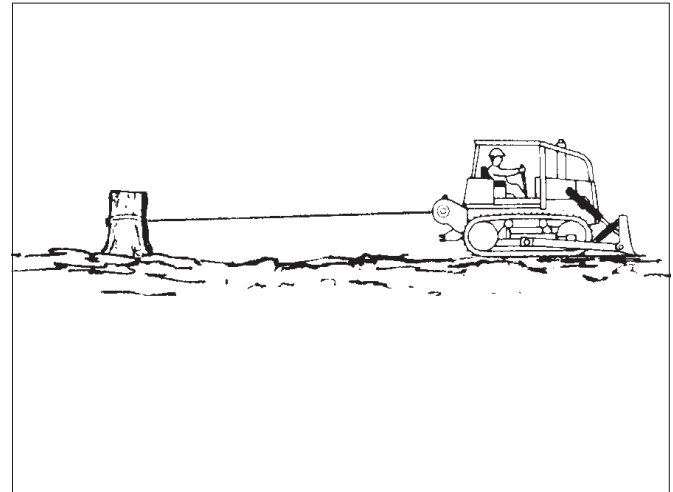

Figure 19 - Moving a Disabled Vehicle (Step A)
A. A vehicle equipped with a winch can be used to remove itself from mud or other areas where it cannot move using only the drive wheels or tracks. See Figure 19. Use the following procedure: